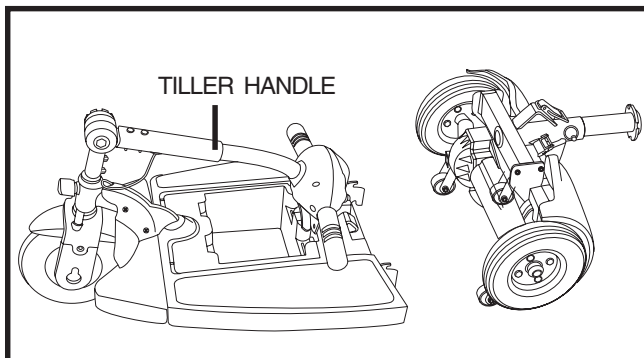

Figure 25. Frame Halves
3. Carefully lift the front section vertically away from the rear section. See figure 25.
1. Position the front and rear sections of your scooter as shown in figure 25.